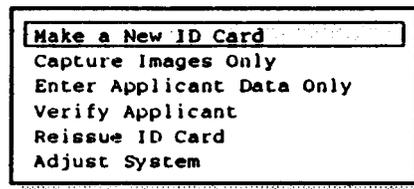

Figure 2-13 Issue and Verify menu
*Figure 2-12 has been removed because it is no longer applicable; all subsequent Figures remain as originally numbered, i.e. Figure 2-13 is next.*
- When the Issue and Verify Menu (Figure 2-13) is displayed, select **Make a New ID** (highlight that line using the up/down arrow keys, or simply type the first letter of the selection - m or M) and press <Enter>. The applicant data entry screen (Figure 2-14) will appear.